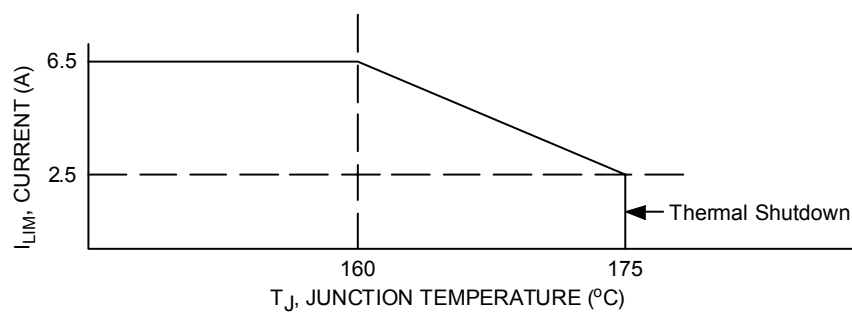
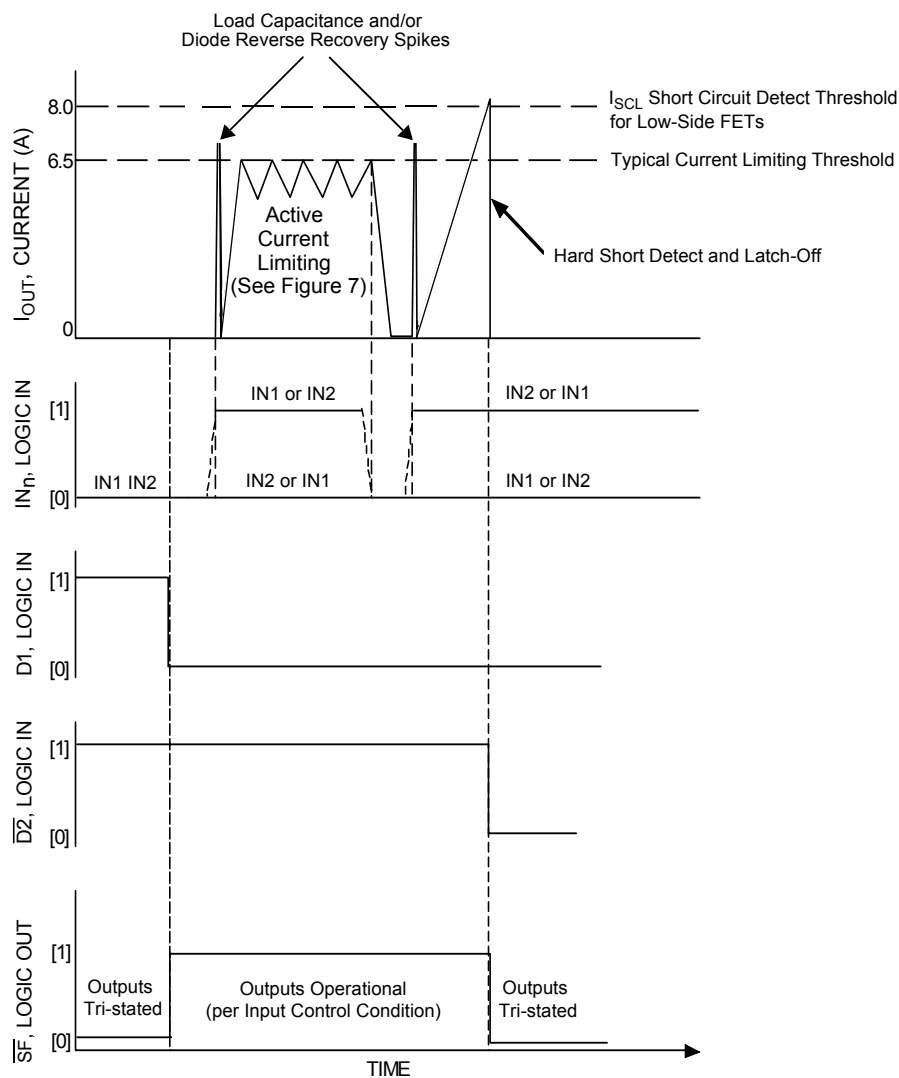

Figure 5. Active Current Limiting Versus Temperature (Typical)
Figure 6. Active Current Limiting Versus Time
26. Increasing currents will become limited at  $I_{\text{LIM}}$ . Hard shorts will breach the  $I_{\text{SCH}}$  or  $I_{\text{SCL}}$  limit, forcing the output into an immediate tri-state latch-OFF. See Figures 6 and 7, page 12. Active current limiting will cause junction temperatures to rise. A junction temperature above  $160^\circ\text{C}$  will cause the active current limiting to progressively “fold-back”, or decrease, to 2.5 A typical at  $175^\circ\text{C}$  where thermal latch-OFF will occur. See Figure 5, page 11.
The current limiting threshold value is dependent upon the device junction temperature. When  $-40^\circ\text{C} \leq T_J \leq 160^\circ\text{C}$ ,  $I_{LIM}$  is between 5.2 A to 7.8 A. When  $T_J$  exceeds  $160^\circ\text{C}$ , the  $I_{LIM}$  current decreases linearly down to 2.5 A typical at  $175^\circ\text{C}$ . Above  $175^\circ\text{C}$  the device overtemperature circuit detects  $T_{LIM}$  and overtemperature shutdown occurs (see Figure 5, page 11). This feature allows the device to remain operational for a longer time but at a regressing output performance level at junction temperatures above  $160^\circ\text{C}$ .